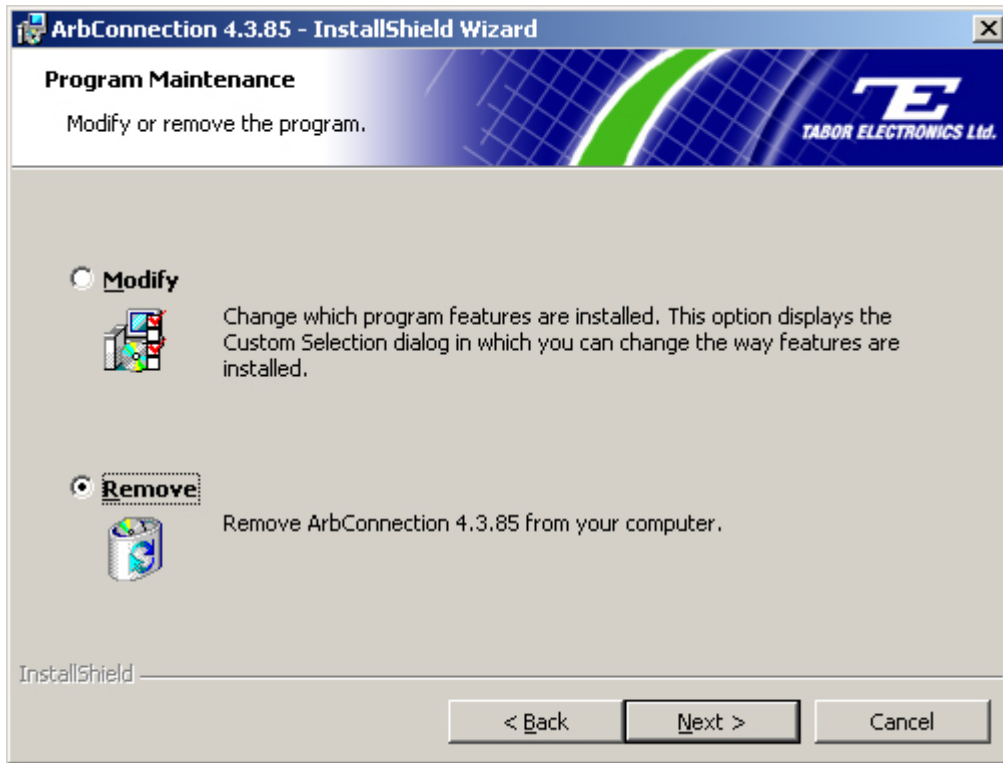

Figure 2-17: Removing ArbConnection Software
3. In the Program Maintenance screen, select “Remove” as shown in Figure 2-17, and then click on “next”.